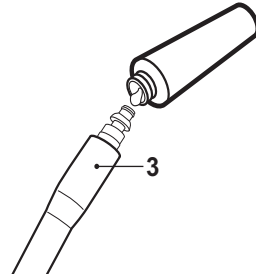

Fig. 23
Apply a drop of lubricant to the O-ring at connector of the pressure hose (3) (Fig. 23, A).